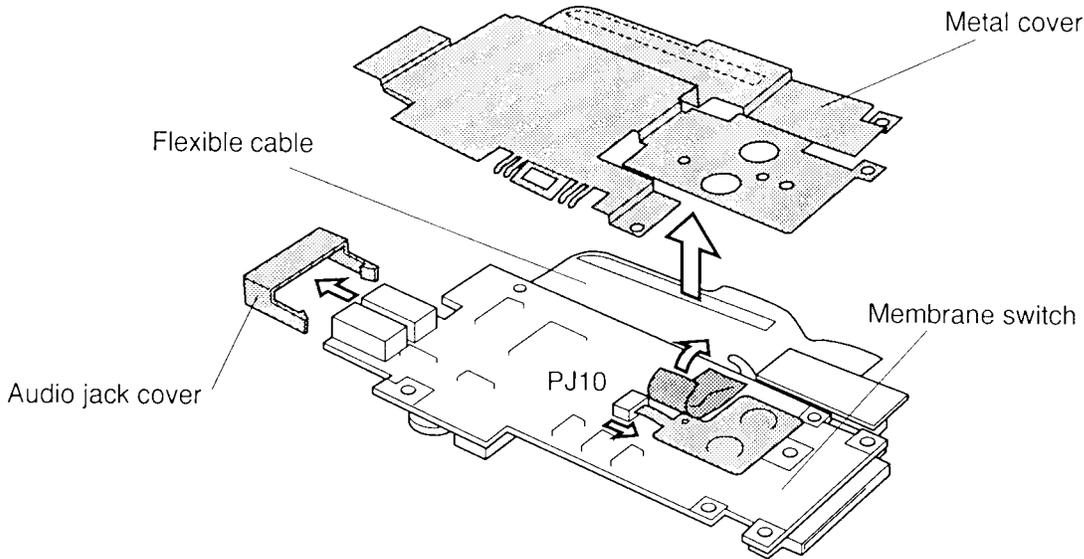

Figure 4-29 Removing the membrane switch
4. Remove **one M2.5x6 screw** securing the plastic sound board base and lift off the base (figure 4-29).